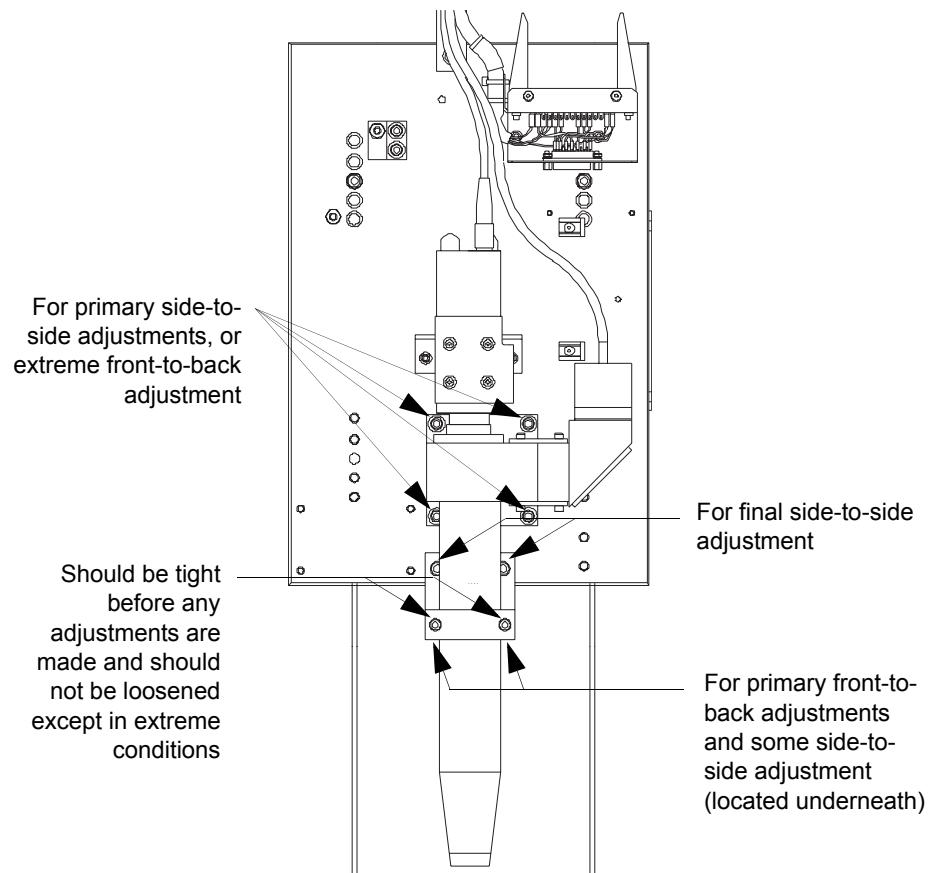

Figure 8-11 Optics Assembly Alignment
12. The Ronchi image should be centered in the crosshairs as it was when the lens was installed. If not, the entire optics assembly must be physically aligned by loosening its mounting bolts and moving the optics tube until the Ronchi is properly aligned; see Figure 8-11.